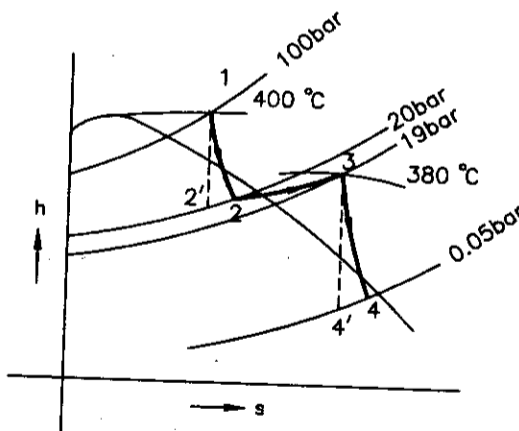

Fig. Prob. 22.7.
**Solution.** The expansion and reheating processes of steam are represented on  $h-s$  diagram as shown in Fig. Prob. 22.7.